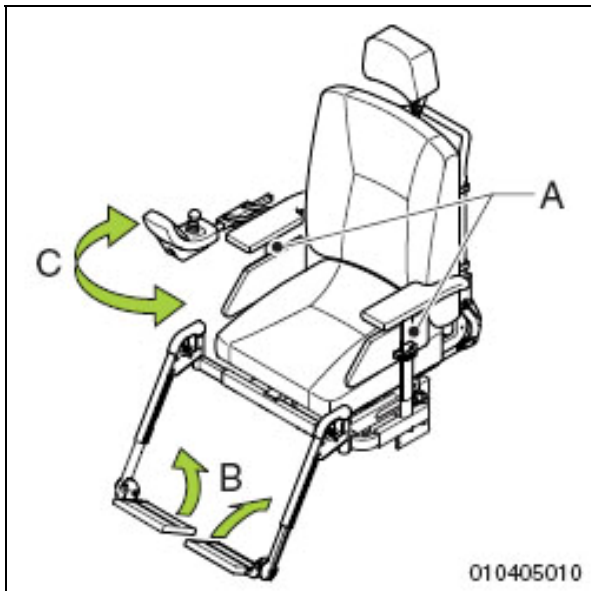
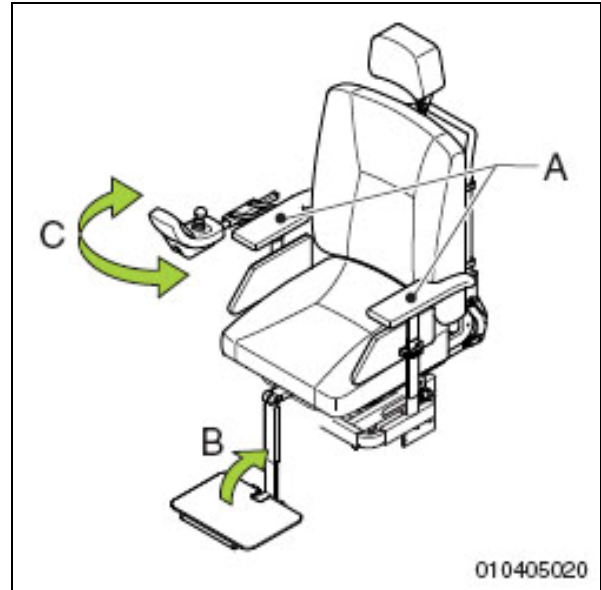

Figure 3.1
Figure 3.2
1. Fold up the foot support (B in fig. 3.1 and fig. 3.2)
1. Loosen the star knob and remove the armrest (A in fig. 3.1 and fig. 3.2) .
Depending on the version of the controller and the location of the transfer, it can be necessary that the controller be swung away (C in fig. 3.1 and fig. 3.2).